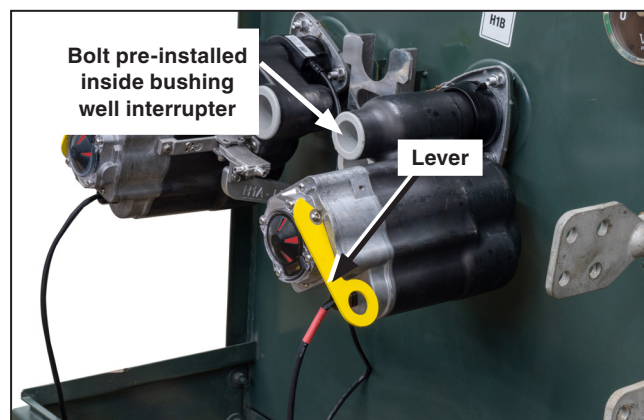

Figure 22. H1B bushing well interrupter installation.
STEP 2. There is a captive bolt inside the bushing well interrupter. Install the bushing well interrupter onto the bushing well adapter with the yellow lever positioned at approximately 45 degrees as shown in Figure 22.